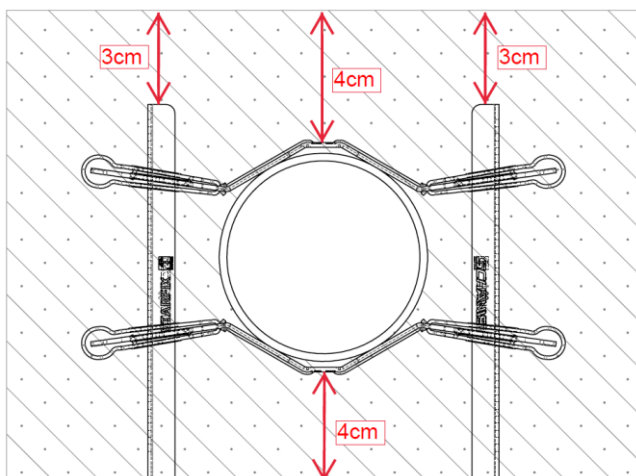

Figure 1
- 2.1 The pipelines must have a minimum separation of 4 cm from the ceiling and the floor, so that the minimum sound insulation values are achieved (see Figure 1).
- 2.7 The length of the feet must be chosen such that their ends have a minimum separation of 3 cm from the surface of the concrete (see Figure 1).